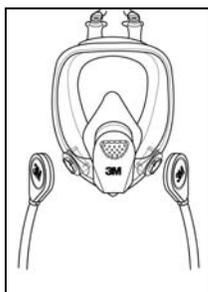

Fig. 7
1. Hold the facepiece in front of you so that the 3M logo is facing you. Align the two branches of the breathing tube over the two bayonet mounts on facepiece (Fig. 7). For SA-1500 or SA-1600 Breathing Tubes, make sure that 3M logo on breathing tube and on facepiece are both facing towards you. For 3M SA-2500 or SA-2600 Breathing Tubes, make sure that the 3M logo on breathing tube is facing in opposite direction to 3M logo on facepiece.